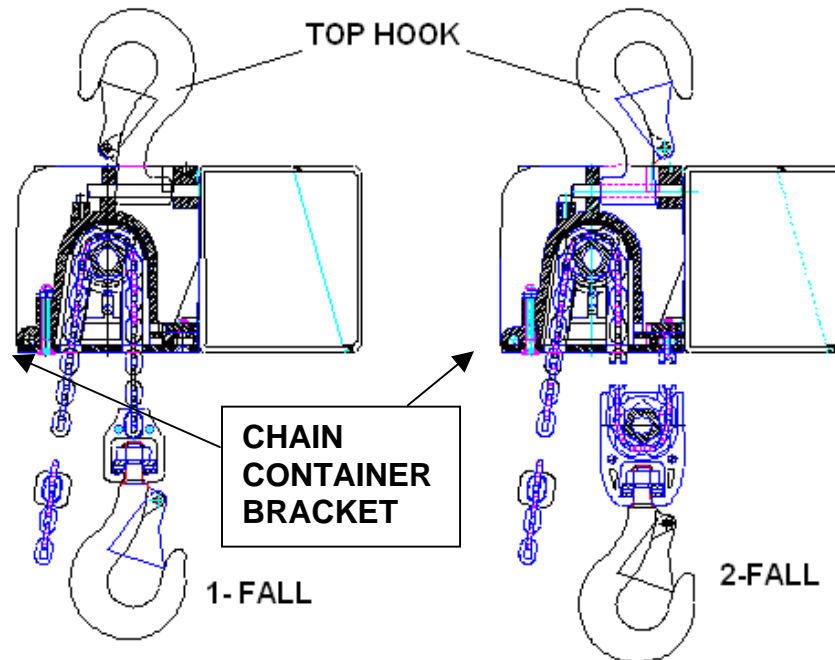

Figure 5.11
2. Determine number of chain falls: 1-fall or 2-fall – Reference Figure 5.11